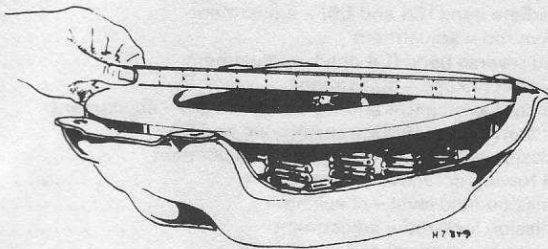

Fig. 5.8 Checking the pressure plate for warpage (Sec. 5)
- 2 Check the wear on the clutch fingers; if there is a considerable difference in wear between the fingers, the excessively worn finger is binding and the pressure plate assembly must be renewed. Check the pressure plate for warpage using a steel rule as shown in Fig. 5.8.